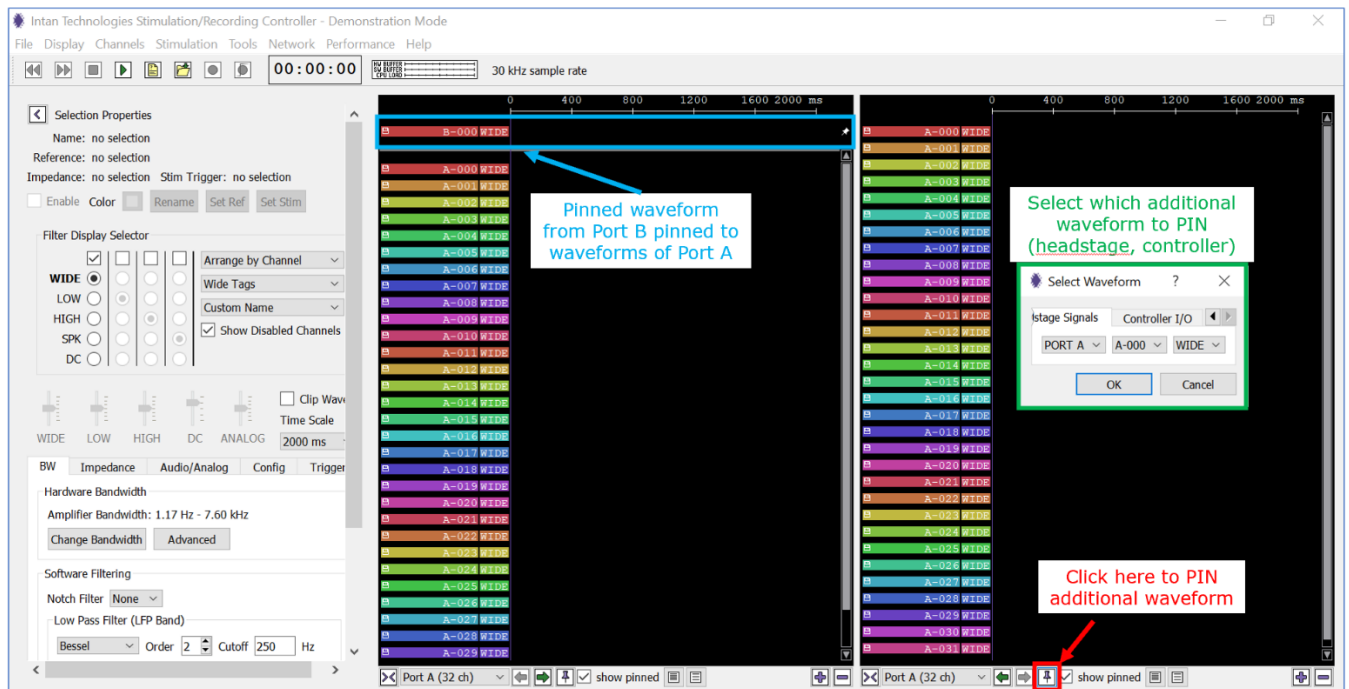

Fig. 50: Pinning waveforms at the top of the Display Column.
Pinned Waveforms can be added at the top of the Waveform Display for any “global” signals you wish to view alongside the signals from each port. Pinned Waveforms have two important properties: (1) they stay fixed at the top of the display regardless of the scroll bar position; and (2) they may be signals from other ports. For example, if Port A is displayed on a particular Display Column, channels from Port B/Digital Input/Analog Input can also be displayed in this column (blue box in **Fig. 50**).
To pin a channel, click on the pin in the toolbar of the display column (red box in **Fig. 50**). You can select to pin a signal from any headstage or the controller I/O (green box in **Fig. 50**). For pinning headstage signals, you can use any signal from any headstage that is connected to the controller or any of the processed/filtered signals (low pass, high pass, spike, DC). For pinning controller I/O signals, you can use any of the digital or analog in/out signals.